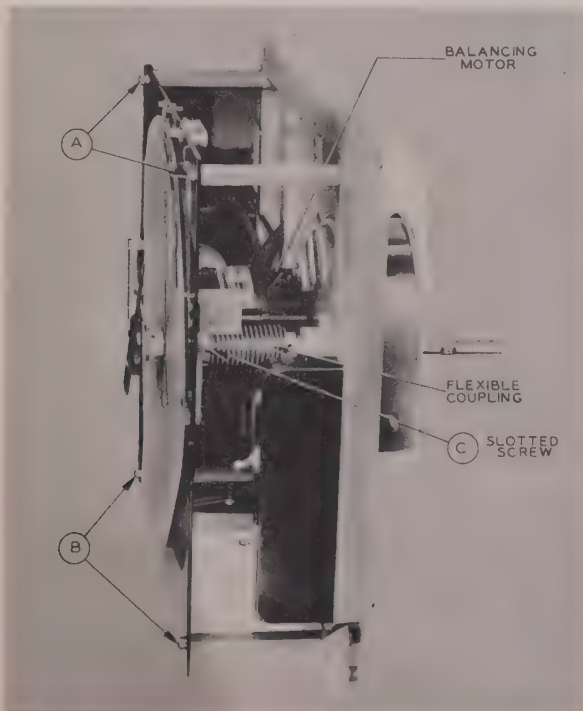

FIGURE 8. END VIEW OF CHART PLATE AND PANEL
4. Replacement of Balancing Motor. Turn power switch off. Refer to Figure 8. In order to replace the balancing motor, it is first necessary to remove the chart plate. Remove screws B and loosen screws A. Loosen slotted screw C on flexible coupling.